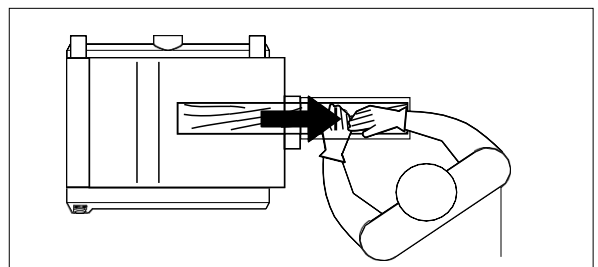

FIG. 8
2. To remove the workpiece from the machine, position yourself offset to one side of the outfeed opening. FIG. 8. Do not pull the timber as it exits the machine. Let the outfeed roller move the workpiece out of the thicknesser at its own rate, but support the Timber as it extends past the extension rollers.